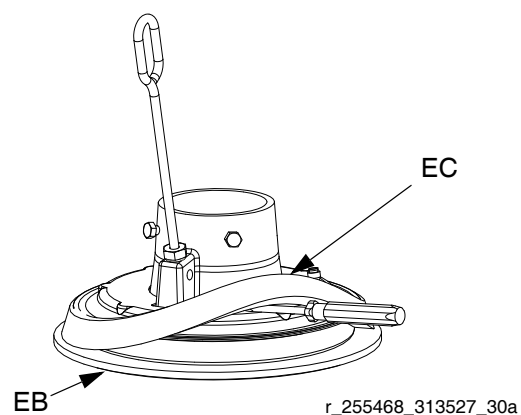

FIG. 15
2. *Working from the bottom*, use screwdriver to pry spacer (EC) loose. Work spacer upward completely above the flange of the platen. See FIG. 15.